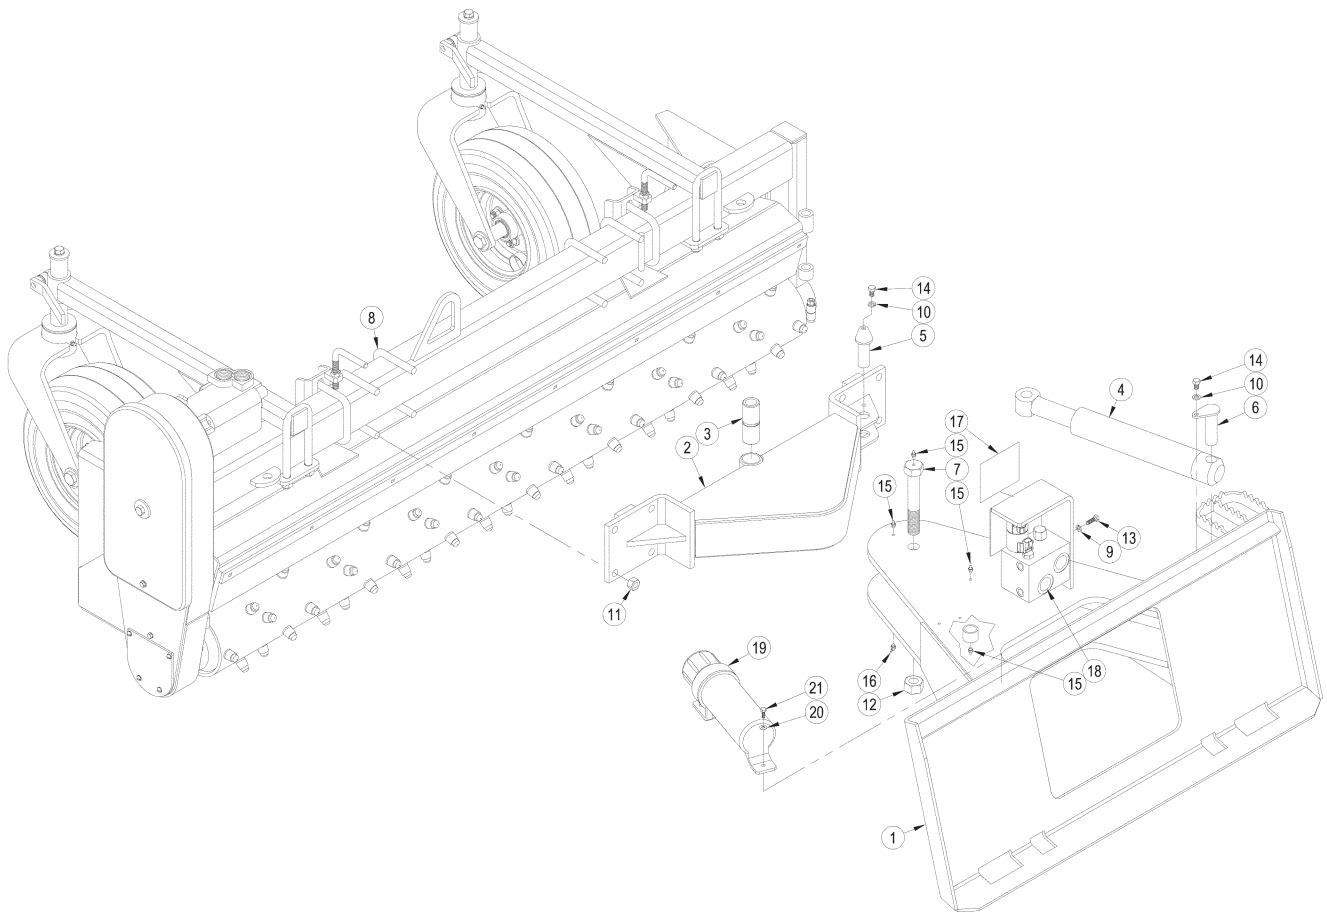

Figure 11. Hydraulic Angle Assembly
(See Figure 11 & Figure 15)
2. Attach the two gauge wheel assemblies to main frame using two 5/8" U-bolts and locking nuts as shown in **Figure 11 (page 30)** and **Figure 15 (page 40)**.
7. Attach the two gauge wheel assemblies to main frame with two 5/8" U-bolts and Locking nuts as shown in **Figure 11 (page 30)** and **Figure 15 (page 40)**.